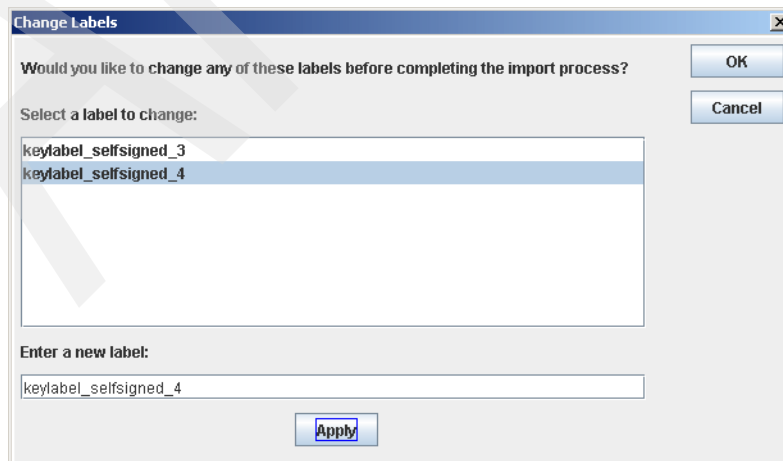

Figure 6-31 Applying label change
7. The change is reflected in the Select area, as shown in Figure 6-31. Click **OK**.